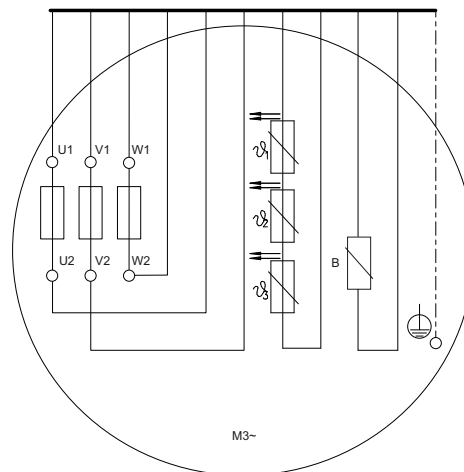

Fig. 26 Three PTC sensors
- Standard flowmakers incorporate three PTC sensors. See fig. 26.
See wiring diagram in fig. 26.